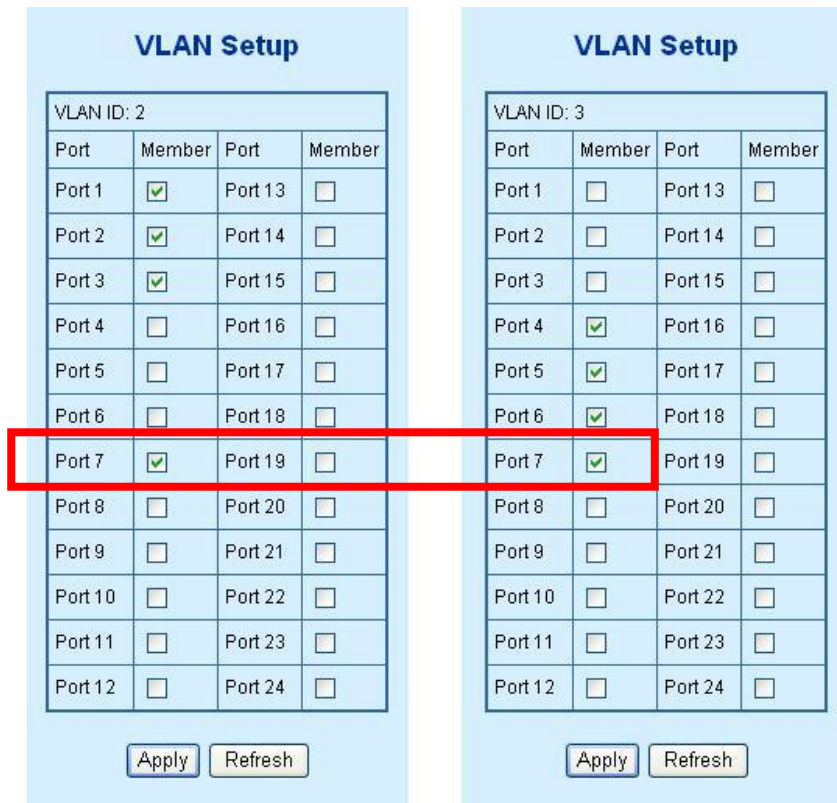

Figure 4-18 VLAN overlap port setting
2. Assign **Port-7** to both **VLAN 2** and **VLAN 3** at the VLAN Member configuration page. The screen in Figure 4-18 appears.